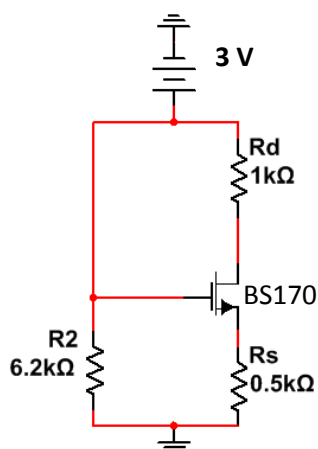

Fig1: Circuit Diagram
- Perform hand analysis of the given circuit (Figure 1). Use the values $K'_n = 1.825 \text{ mA/V}^2$, $(W/L) = 1$ and $V_{TN}=1$ in your hand calculations.